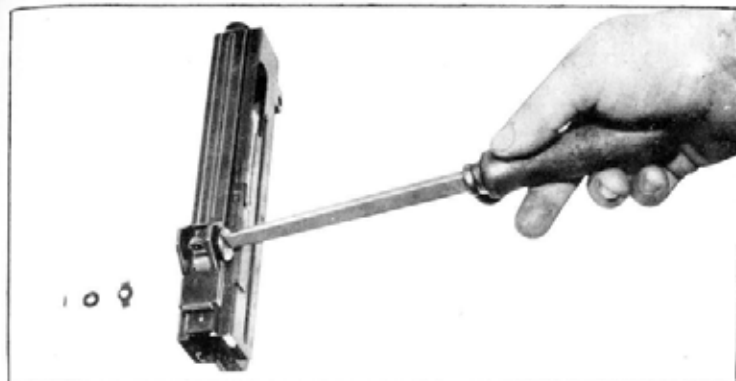

Fig. 78
2. con attrezzo 108 svitare in senso antiorario la vite diottra (fig. 78)
2. *with tool 108 unscrew anticlockwise the aperture sight and remove it (figure 78).*